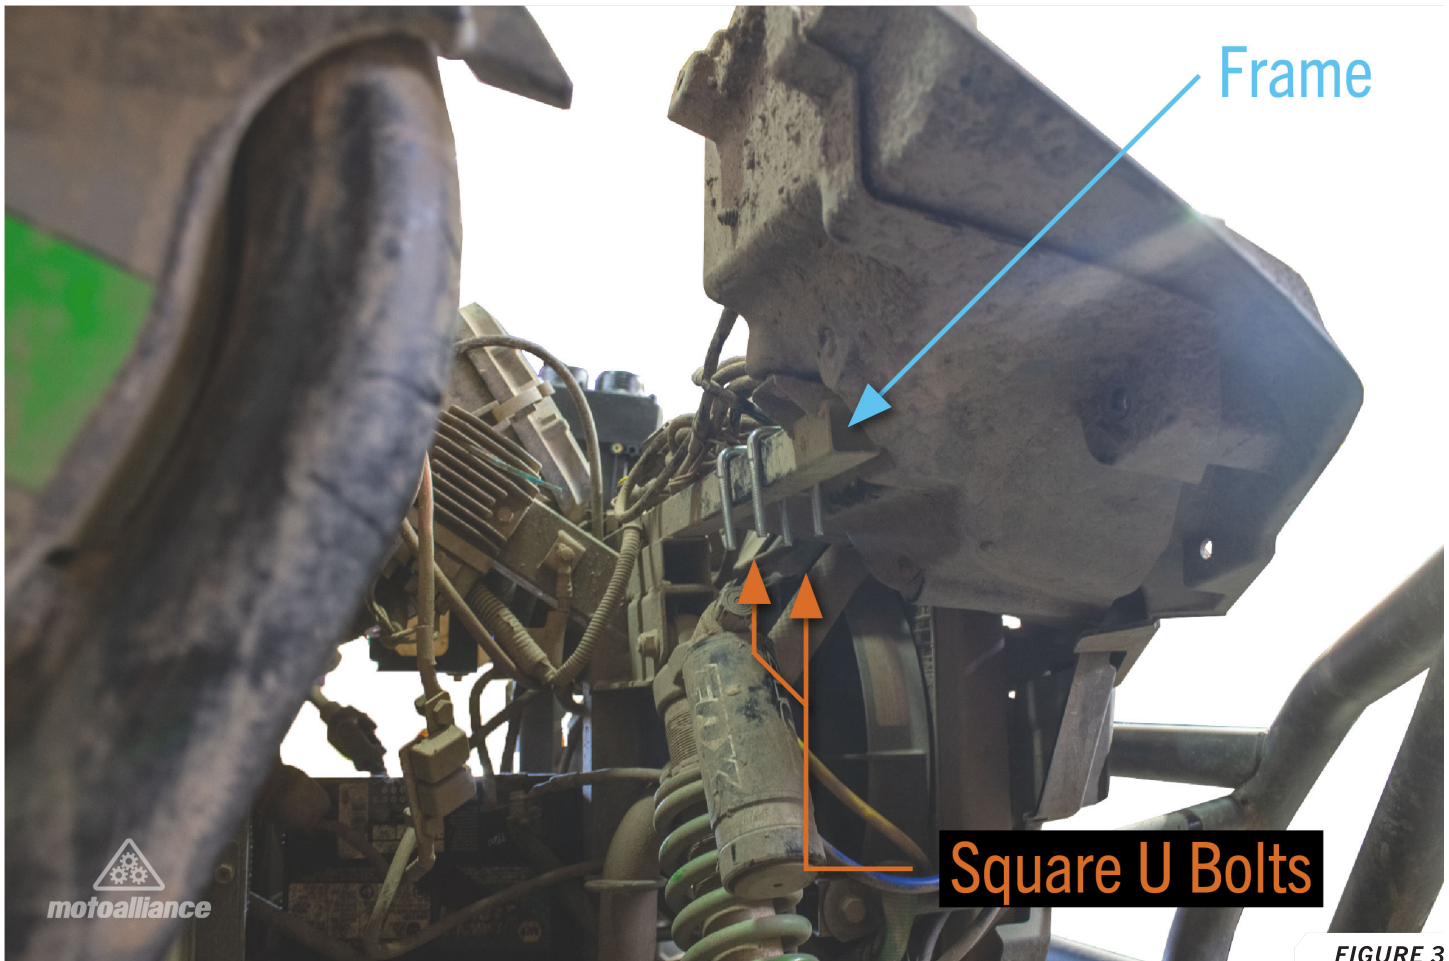

FIGURE 3
5. Slide the square U-bolts onto frame as shown in *FIGURE 3*.